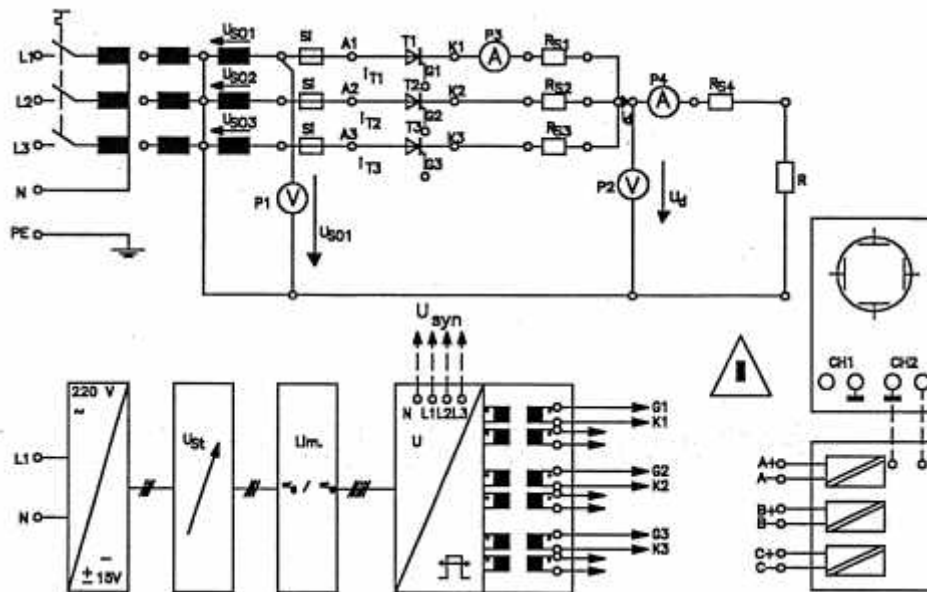

Figure 1 Three pulse controlled rectifier
- Connect the power circuit as shown in Figure 1, while using the supply voltage one at a time: 45V, 90 V and a load resistance of 33 Ω, (three 100 Ω resistance connected in parallel)
- Connect to the power circuit shown in Figure 1, a load made up of a resistance of 33Ω , (three 100Ω resistance connected in parallel) in series with an inductance of 50 mH .